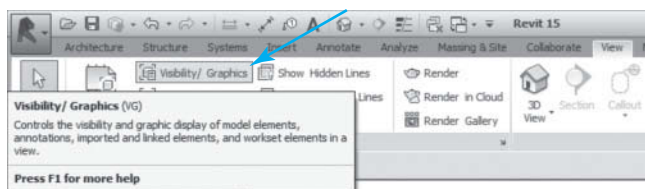

Figure 3-15
7. Select **Visibility/Graphics** from the **View** tab, or type **VG** to bring up the **Visibility/Graphics Overrides** dialog box (see Figure 3-15).